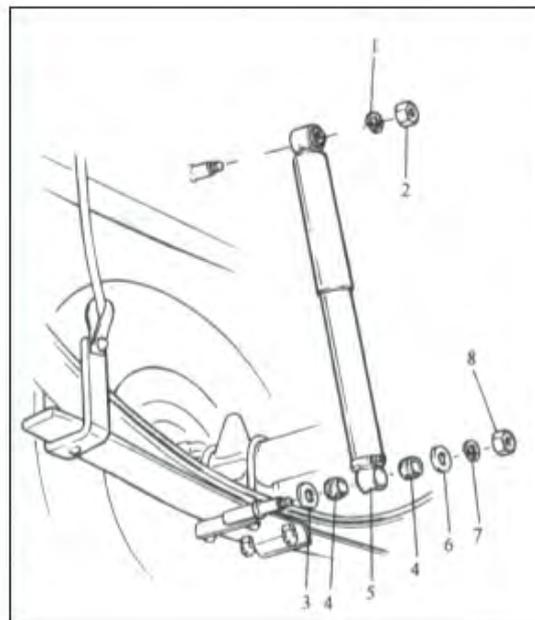

FIG.14-27
- (1) Install shock absorber according to FIG.14-27.